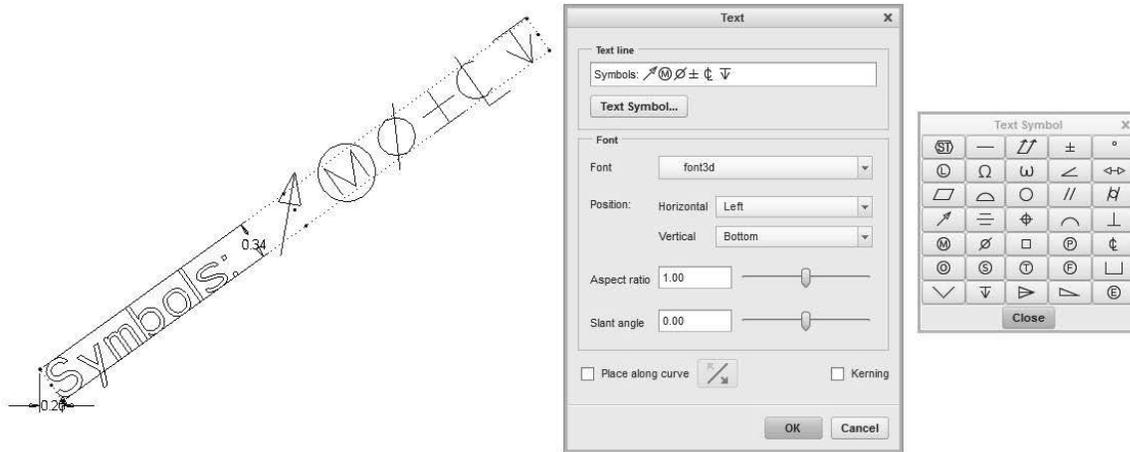

Figure 3-3 Text and Symbols
**Text**—Create alpha characters and symbols on the sketch. Use the LMB to select a start point on the sketching plane and a second point which will set the text height and orientation. The length of the construction line determines the height of the text, while the angle of the line determines the text orientation. The two weak dimensions can be changed or replaced using the dimensioning tool. The Text dialog box opens. A red diamond appears at the start point of the text. Type a single line of up to 79 characters of text. Selecting the Text Symbol button brings up a new window containing many symbols which can be incorporated into the line of text. See Figure 3-3. This tool continues to operate until a new sketcher tool is selected or the user presses the MMB once.